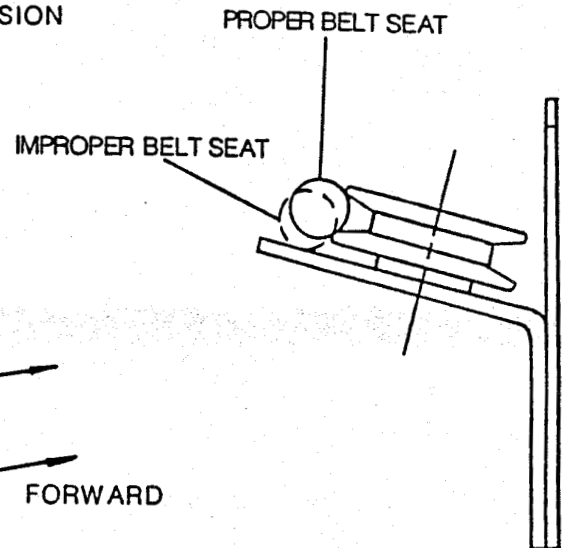

FIG.4
- STEP 3. Run machine and check belt tension. If belt seats ok, replace inner support guard. If belt does not seat properly (Fig. 4), repeat step (2).